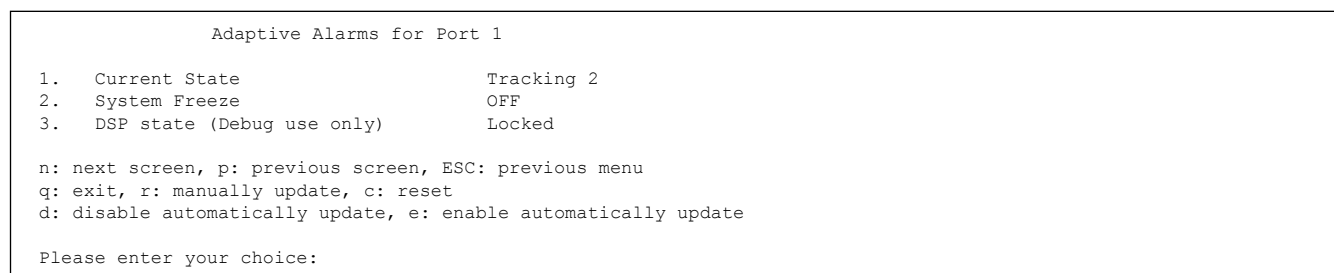

Figure 5-4. Adaptive Alarms Menu
- 3) From the **Interface Alarms** menu, select **Adaptive Alarms**. The **Adaptive Alarms** menu is displayed (Figure 5-4).